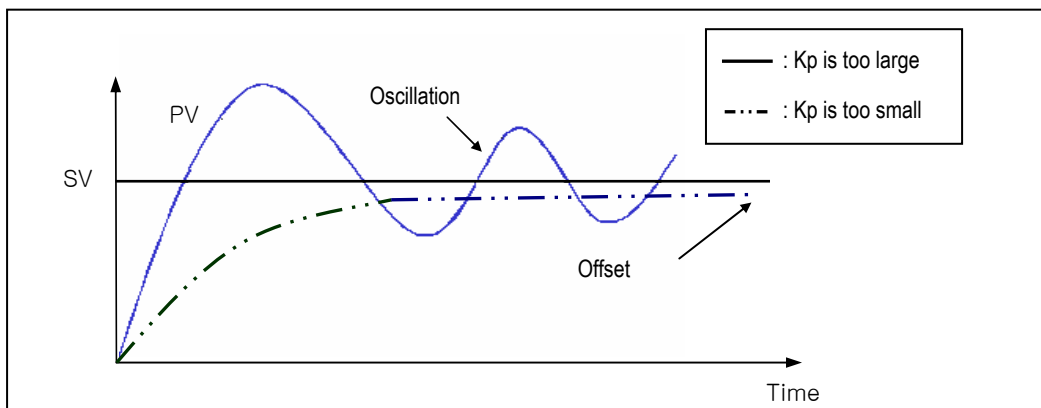

Fig. 7.2 The relation between Proportional constant ( $K_p$ ) and present value (PV)
- (e) If the  $K_p$  is too small, oscillation will not occur. However, the PV reaches to the SV slowly and an offset may appear between PV and SV shown in the Fig. 7.2.
- (f) The manipulation value (MV) varies from 0 to 4,000. User can define the maximum value of MV (MV\_MAX) and minimum value (MV\_MIN) within the range 0 ~ 4,000.